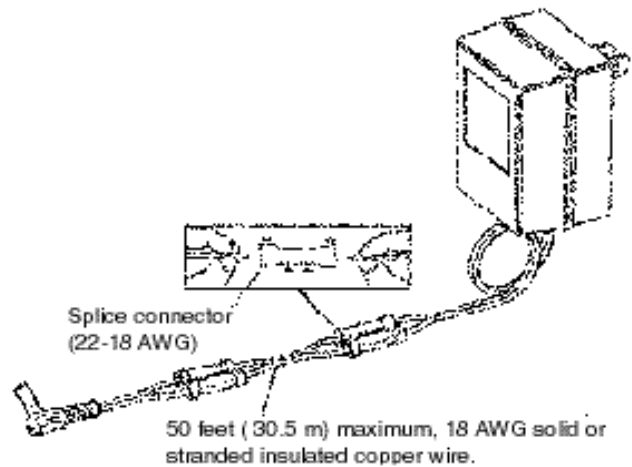

Figure 7
2. Insert stripped wire into barrel of connector and crimp. For best results, crimp twice per wire as shown in Figure 7.